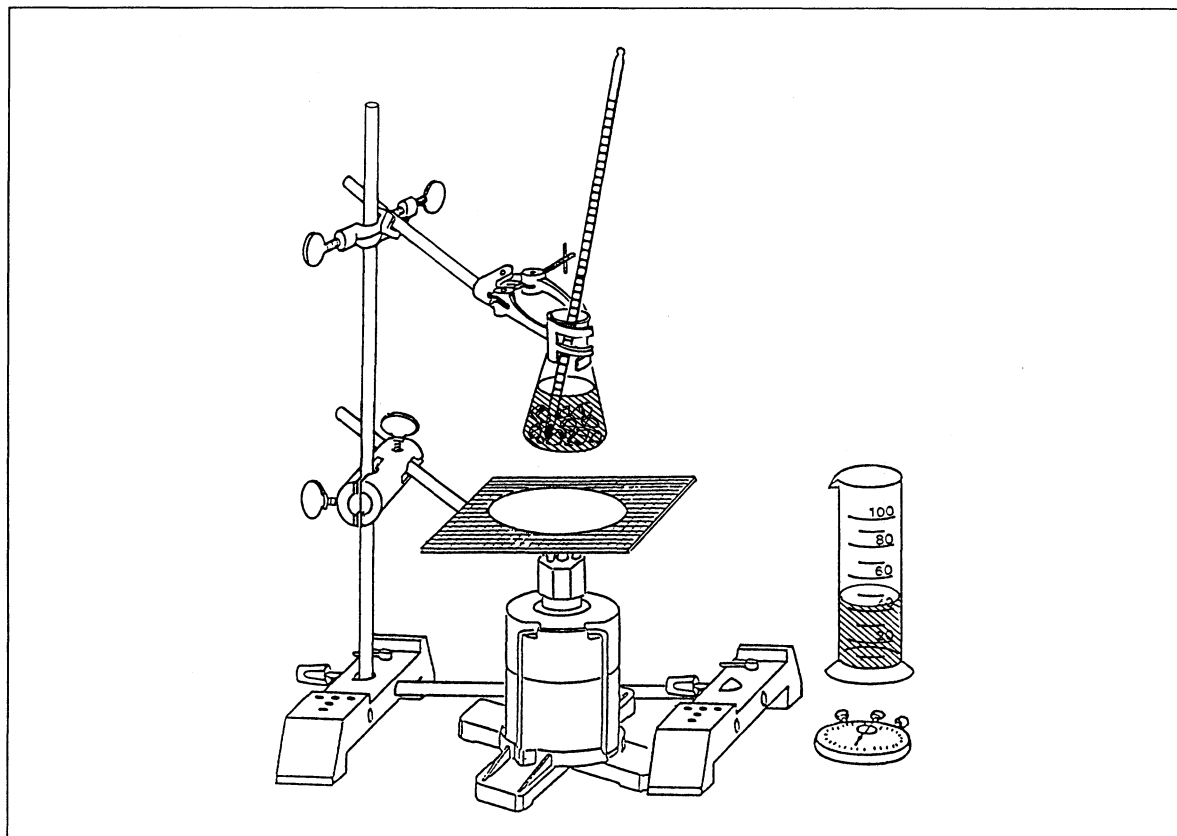

Fig. 1 Experimental setup for heating water
1. Set up the stand as shown in fig. 1.